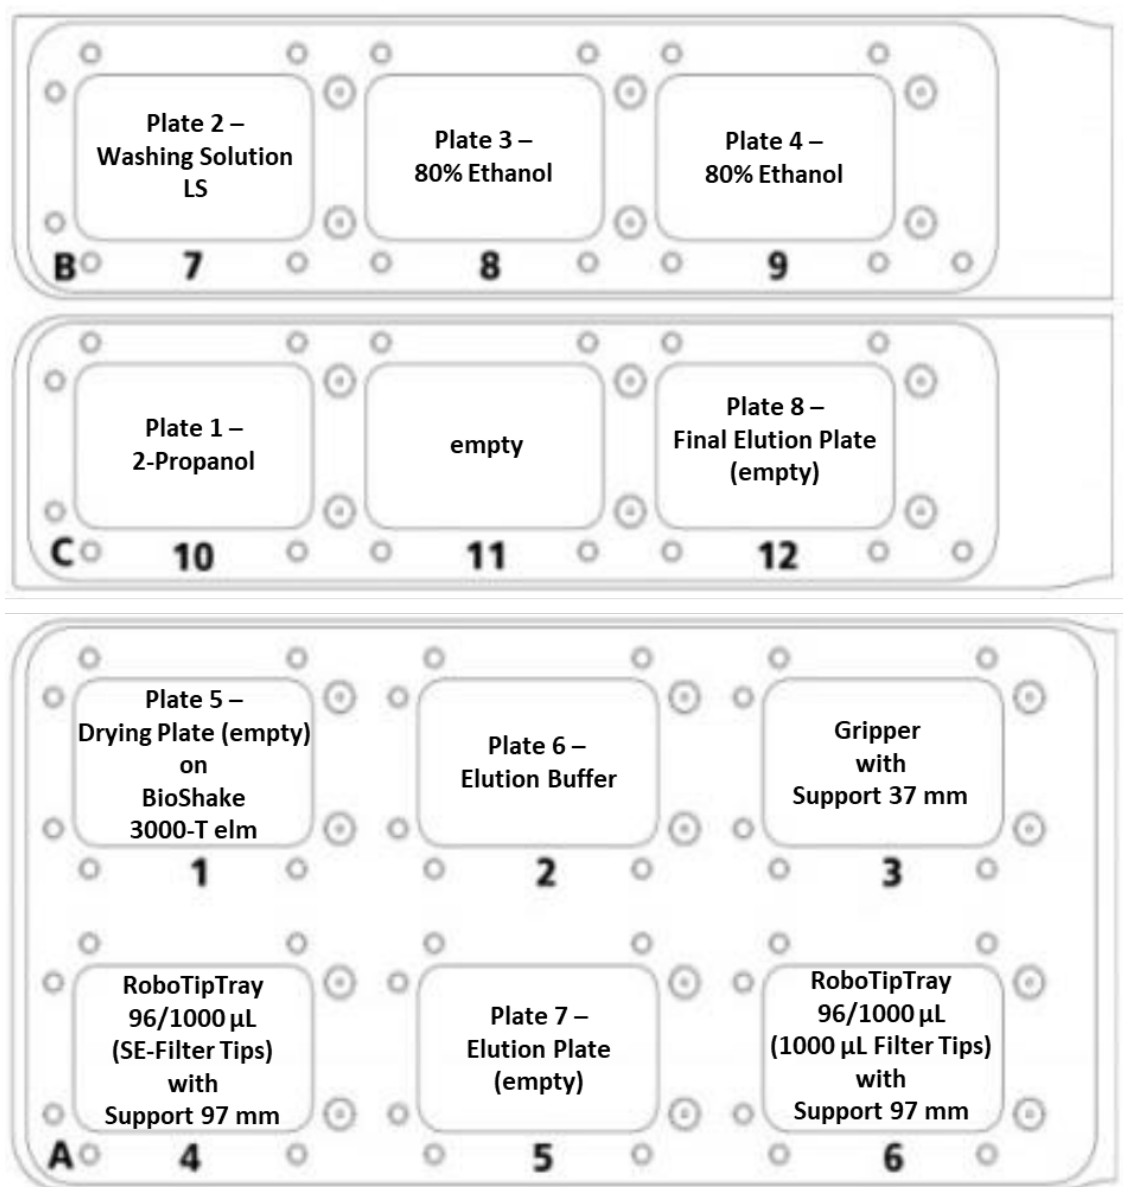

Figure 11: Deck Layout for starting the extraction protocol.
3. Load all prepared plates and accessories onto CyBio FeliX decks according to **Figure 11**. As a final Elution Plate (**deck position 12**) multiple options are possible: